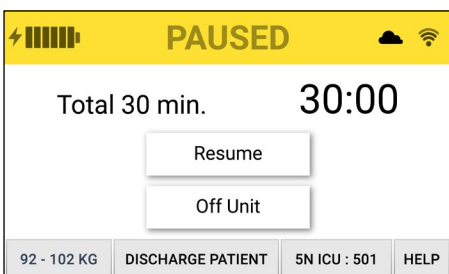

Figure 8. Paused screen
2. A paused screen will display with a yellow status bar and remaining pause time displayed on the right side of the screen. (Fig. 8)